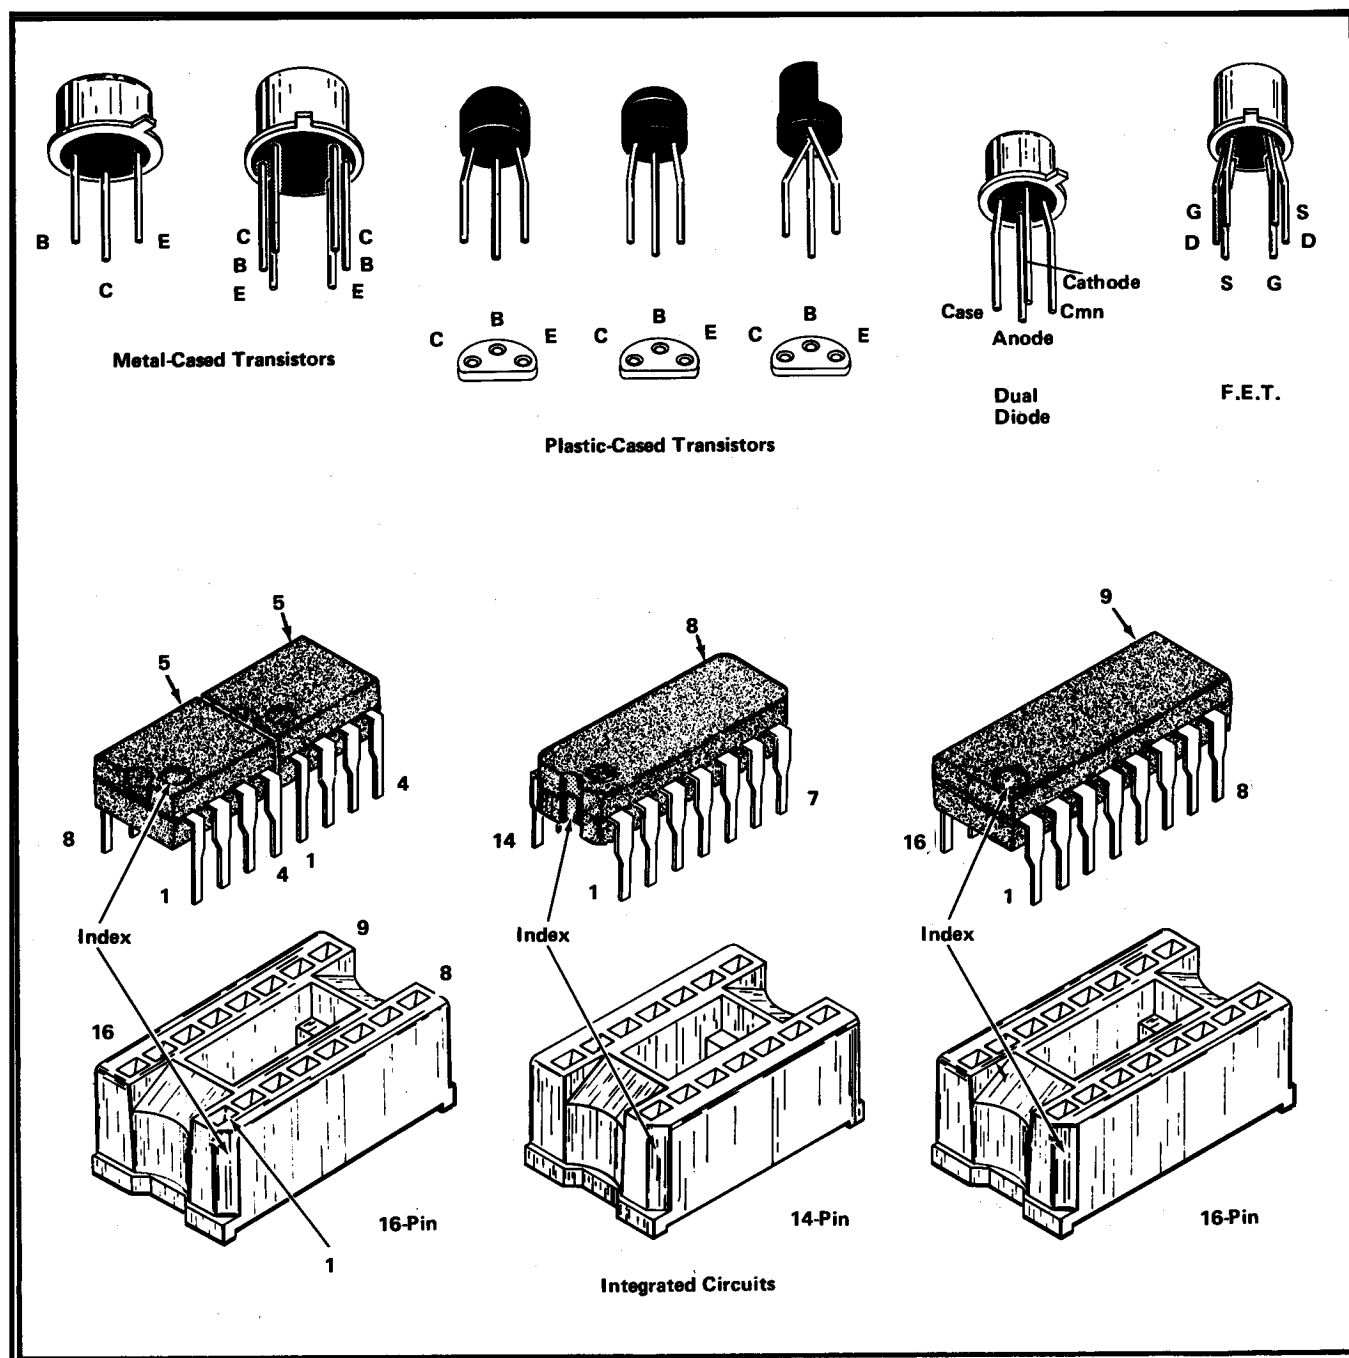

Fig. 4-1. Electrode Configuration for Semiconductors used in this instrument.
**Semiconductor Lead Configuration.** Fig. 4-1 shows the lead configuration of the semiconductor devices used in this instrument.
The best check of transistor and integrated circuit operation is actual performance under operating conditions. If a transistor or integrated circuit is suspected of being defective, it can best be checked by substituting a component known to be good; however, be sure that circuit conditions are not such that a replacement might also be damaged. If substitute transistors are not available, use a dynamic tester (such as Tektronix Type 576). Static-type testers may be used, but since they do not check operation under simulated operating conditions, some defects may go unnoticed. Fig. 4-1 shows base pin and socket arrangements of semiconductor devices. Be sure the power is off before attempting to remove or replace any transistor or integrated circuit.
Replacement semiconductors should be of the original type or a direct replacement. Fig. 4-1 shows the lead configuration of the semiconductors used in this instrument. If the replacement semiconductor is not of the original type, check the manufacturer's basing diagram for proper basing. An extracting tool should be used to remove the 14 and 16 pin integrated circuits to prevent damage to the pins. This tool is available from Tektronix, Inc. Order Tektronix Part No. 003-0619-00. If an extracting tool is not available when removing one of these integrated circuits, pull slowly and evenly on both ends of the device. Try to avoid having one